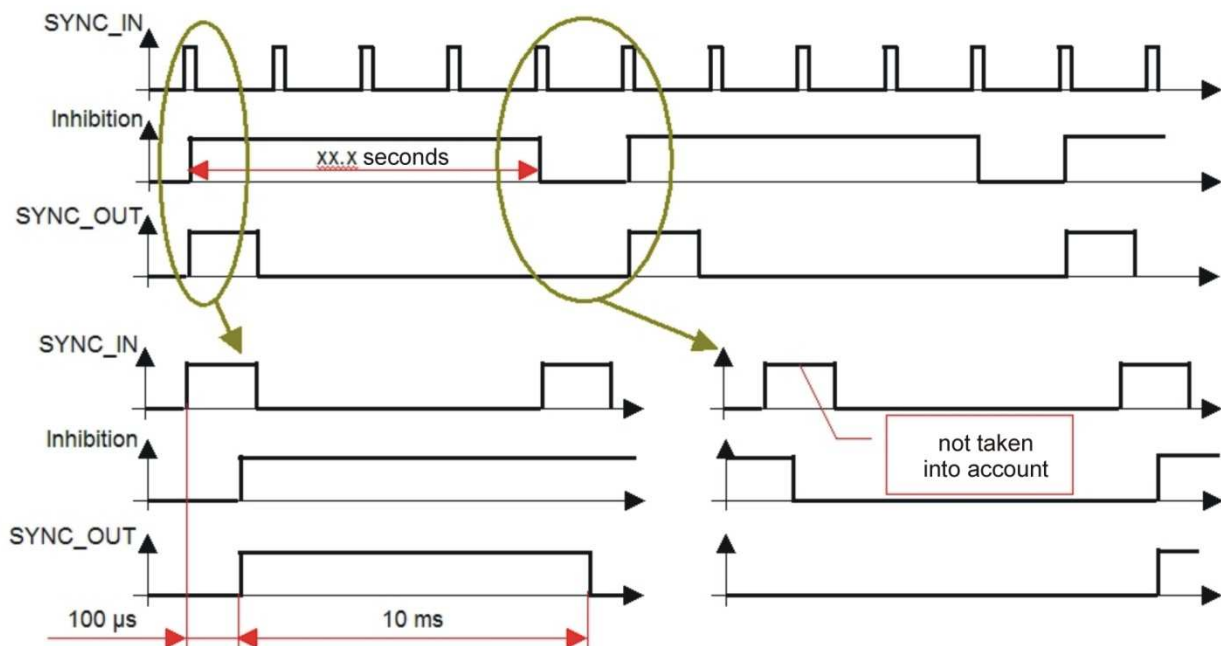

Figure 56 – Inhibition window during an external synchronization
- **External Synchronization with inhibition:** the GAPS minimum recurrence inhibits the short external recurrence after one received trigger. GAPS is triggered on the rising edge of the signal. This mode is described on the Figure 56.